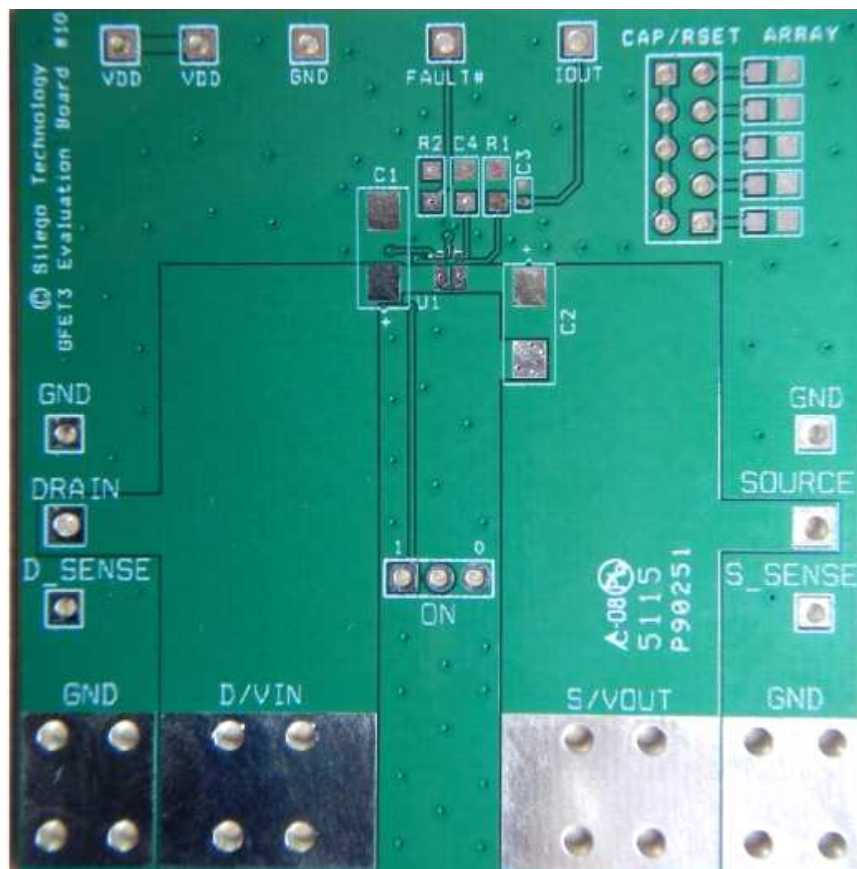

Figure 19. SLG59M1713V Evaluation Board
2. Since the VIN and VOUT pins dissipate most of the heat generated during high-load current operation, it is highly recommended to make power traces as short, direct, and wide as possible. A good practice is to make power traces with an absolute minimum widths of 15 mils (0.381 mm) per Ampere. A representative layout, shown in Figure 19, illustrates proper techniques for heat to transfer as efficiently as possible out of the device;
A GreenFET Evaluation Board for SLG59M1713V is designed according to the statements above and is illustrated on Figure 19. Please note that evaluation board has D_Sense and S_Sense pads. They cannot carry high currents and dedicated only for RDS_{ON} evaluation.